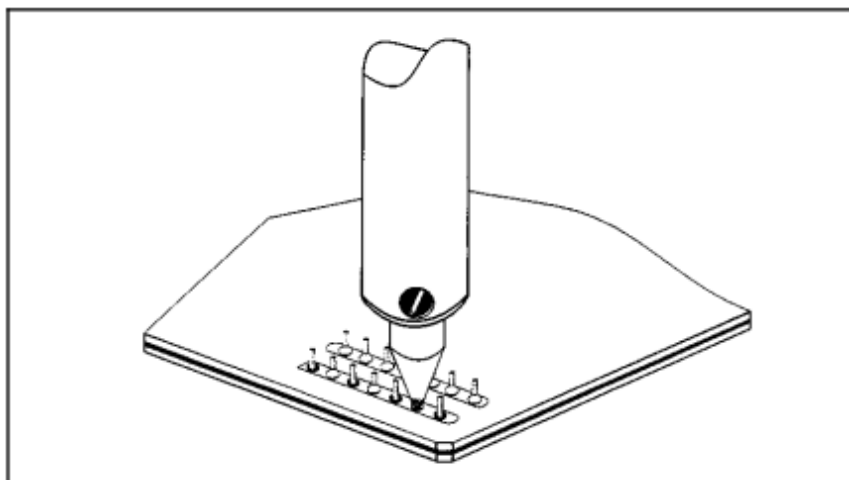

Figure 3 Melt Solder
- g) Confirm complete solder melt of contacted lead. (See Figure 3.)